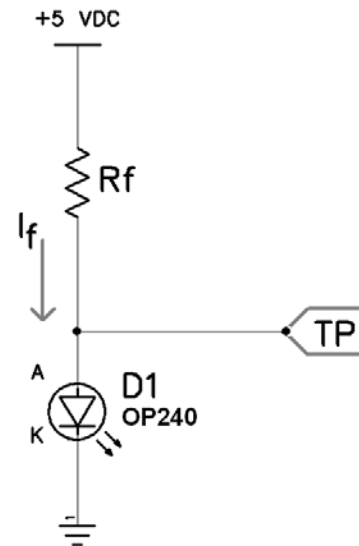

Fig. 2
datasheet will specify the range of forward current that can be safely used without causing damage to the LED. Typically, the forward current will be set at 20 mA. The forward current can be controlled by placing a current limiting resistor in line with the power supply and the LED as shown in Fig. 2.
As seen in Fig. 2, the positive voltage source will be connected through the resistor to the anode (A) while the cathode (K) is connected directly to ground. Alternatively, the voltage source can be connected directly to the anode, and the cathode can